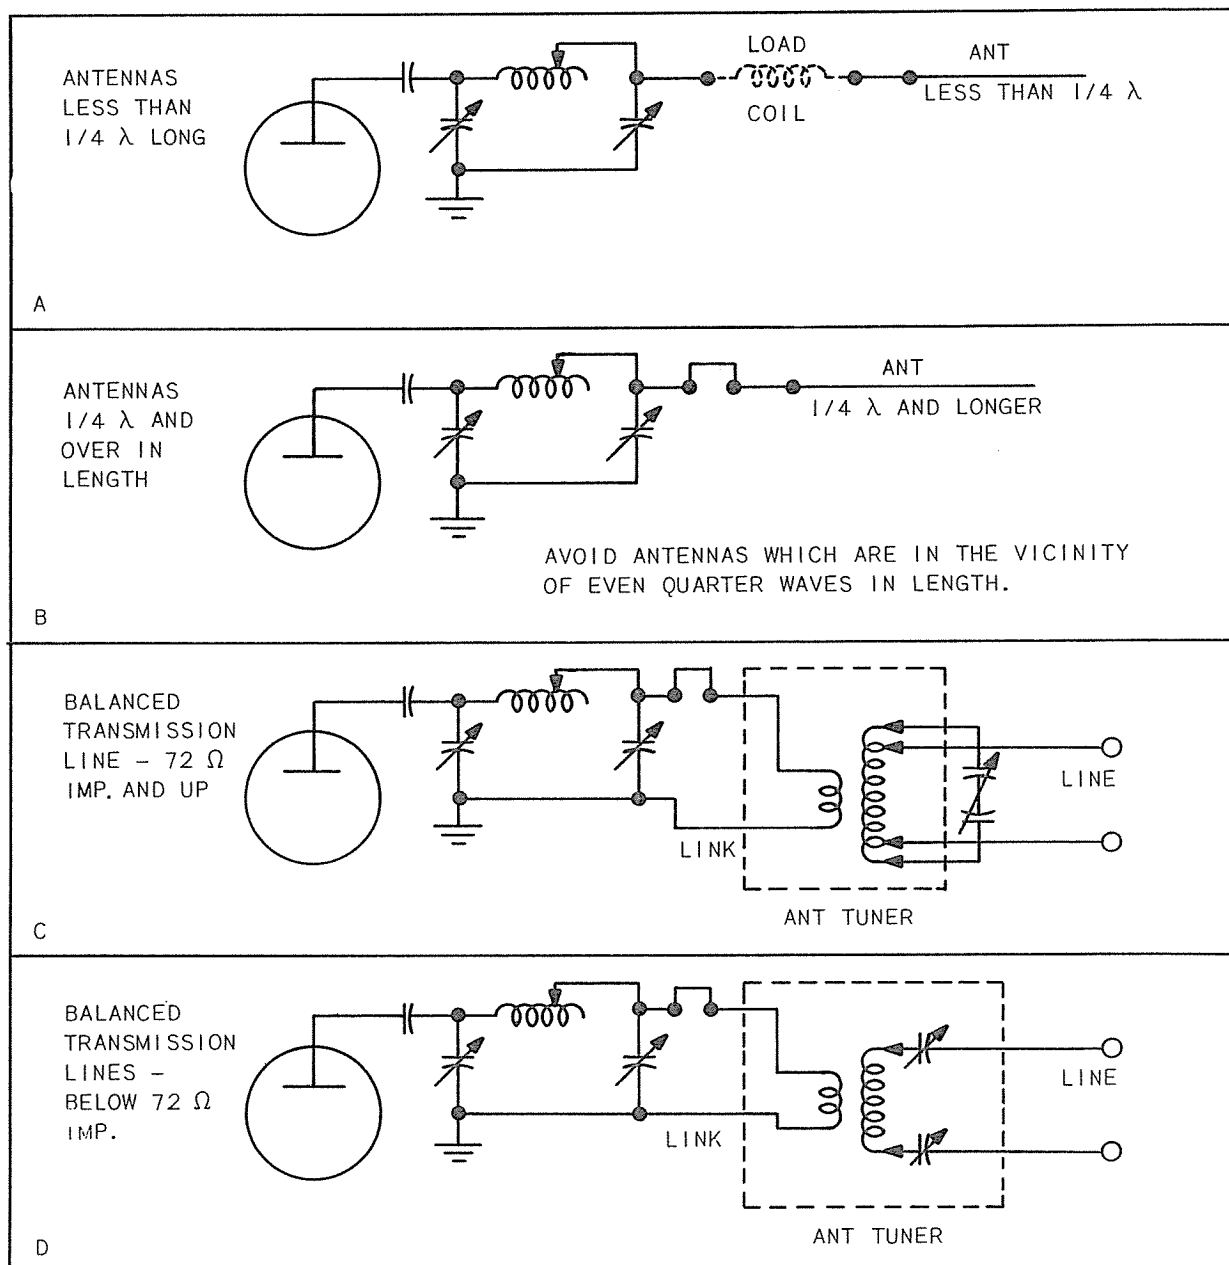

Figure 2-5. Applicable Antenna Circuits
(2) MICROPHONE - The push-to-talk and microphone connections are made by means of Amphenol type MC 4M four-connector plug. The microphone receptacle is located at the rear of the modulator chassis and the microphone cable may enter the side of the cabinet; a  $7/8$ " hole is provided. The ring on the microphone plug should be securely tightened. For LOCAL push-to-talk operation, remove the jumper from terminals 5 and 6 on unit C (speech amp and modulator), and place TEST KEY in the "locked" position.
(3) RADIATION SYSTEM - The output networks will match an extremely wide range of antenna impedances with excellent efficiency. At lower frequencies, and for antenna less than a quarter wave in length provision is made for load coils which will assist in matching the antenna impedance. Unbalanced antenna and single wire or concentric transmission lines can be matched directly. See figure 2-5 for suggested antennas and circuits. Refer to paragraph ag. of table 1-4 for a description of the usable output impedances.